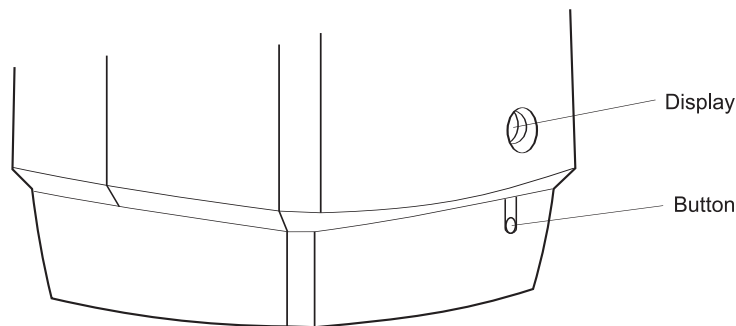

Fig. 20
2. Switch on the electrical supply and the display (see Fig. 20) will start to countdown from twenty to zero. During this countdown the PCB does a self-diagnosis of all the sensors and pumps. If the collector temperature is between 10 and 130°C the drain back unit pump will run for a short period to run a test program, after which the system is ready for use.
### 5.4 DISPLAY - Fig.20
When both pumps are operating, a flashing dot will be visible in the right hand corner of the display (Fig. 20). If only the cylinder pump is running, a flashing dot will be visible in the middle of the display.
The display (see Fig. 20) will display the solar cylinder temperature (10 - 70°C) for 4 seconds followed by the operating mode (oN or oF) for 2 seconds, after which the sequence will be continually repeated.